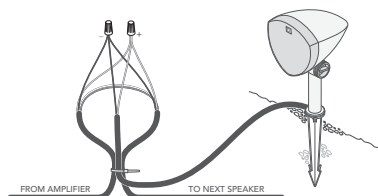

Figure 8
- Cut the correct two wires for the left or right speaker (see the tables below) and strip 3/4" of insulation on the exposed ends of the burial wires, then strip 3/4" insulation from the ends of the corresponding speaker's pigtail (see Figure 8).
- Create a loop of approximately 10", and use a wire tie to hold the wire loop and speaker pigtail in place to provide strain relief (see Figure 8).